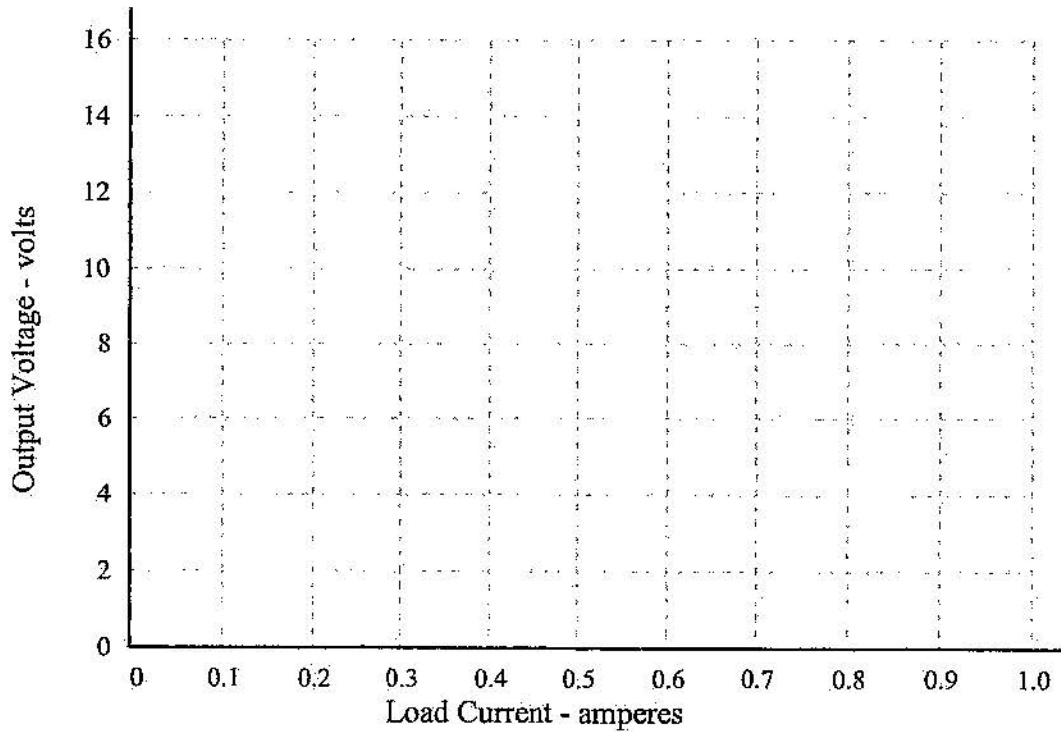

Figure 5
- Using the axis of figure 5, draw the load characteristics for the shunt generator.
- Using the axis of figure 5, draw the load characteristic for the compound generator?